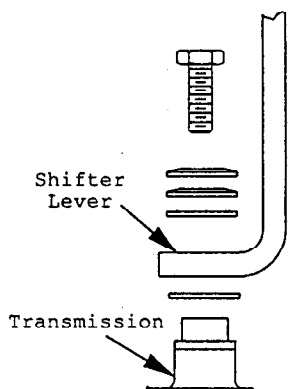

FIG. 5
- a) Remove the 1/4" bolt, the two (2) spring disk washers and the flat washer from shaft on top of transmission. Install shifter lever through slot in shifter plate and position onto shaft on top of transmission. Replace the 1/4" bolt, the two (2) spring disc washers and flat washer (See Figure 5).